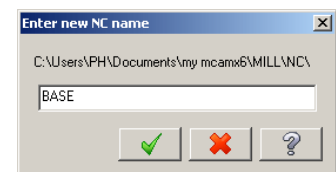

Fig. 17
Step 4. Click OK  in the NC name dialog, **Fig. 17**.